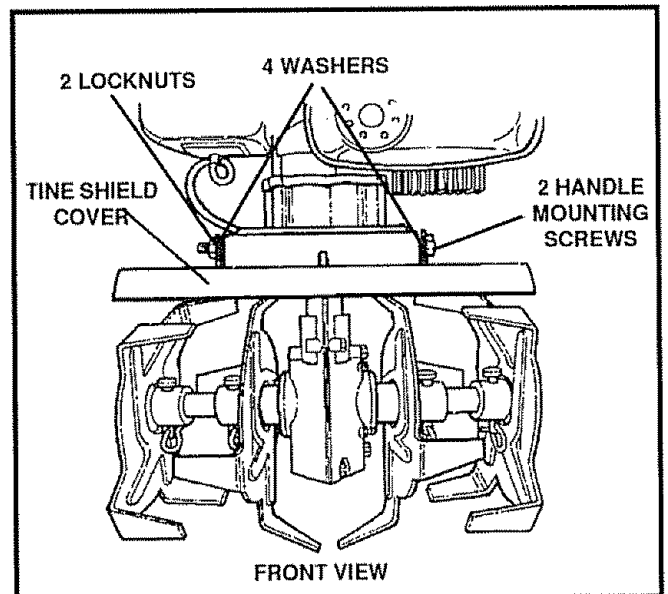

FIG. 2
- Remove two locknuts, four washers and two handle mounting screws from the tine shield (see Fig. 2).